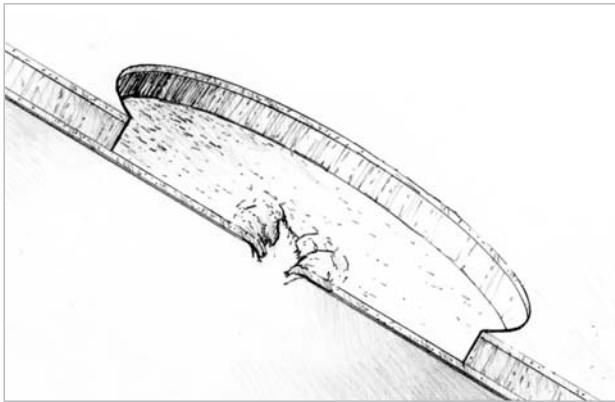

Figure 5-15 Cut back the outer skin and core several inches from the hole through the inner skin.
2. Cut back the outer skin and core several inches from the edge of the hole through the inner skin to provide an area wide enough to grind a 12-to-1 bevel around the edge of the inner skin (Figure 5-15). Use a router with a straight fluted bit set to the depth of the outer skin and core only, to avoid cutting the inner skin. Cut the core and outer skin back 12 times the thickness of the inner skin plus about 1" (25mm) to leave enough room to grind the inner skin bevel. For example, if the inner skin is 1/4" (6mm)-thick, the bevel will extend 3" (7.5cm) from the edge of the hole.